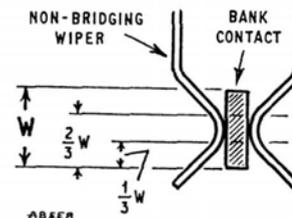

FIG. 17
14. Location of non-bridging wipers on bank contacts.—The position of the non-bridging wipers on the bank contacts should be such that the radial centre (through the contact portion) rests within the limits of $\frac{1}{3}$ rd and $\frac{2}{3}$ rd of the width of a bank contact (see Fig. 17). To adjust the position of the wipers:—